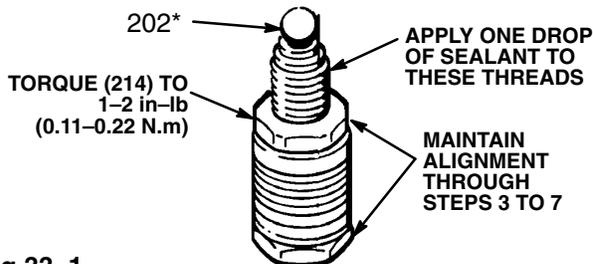

Fig 33–1
4. Apply *only 1 drop* of adhesive, supplied with the repair kit, to the threads of the piston valve. Place the small ball (202\*) on the piston valve (222). See Fig 33–1.